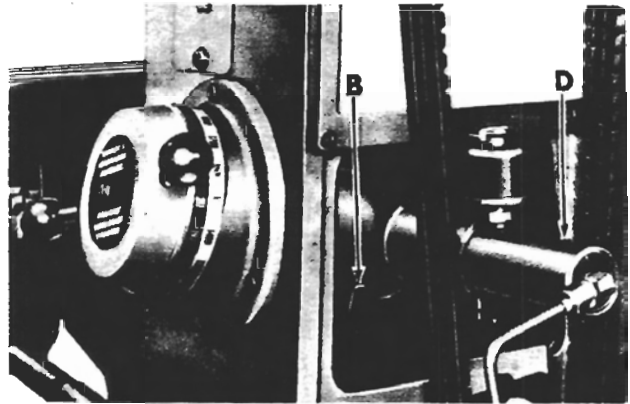

Figure 58
22. Remove lock pin (B, fig. 58).